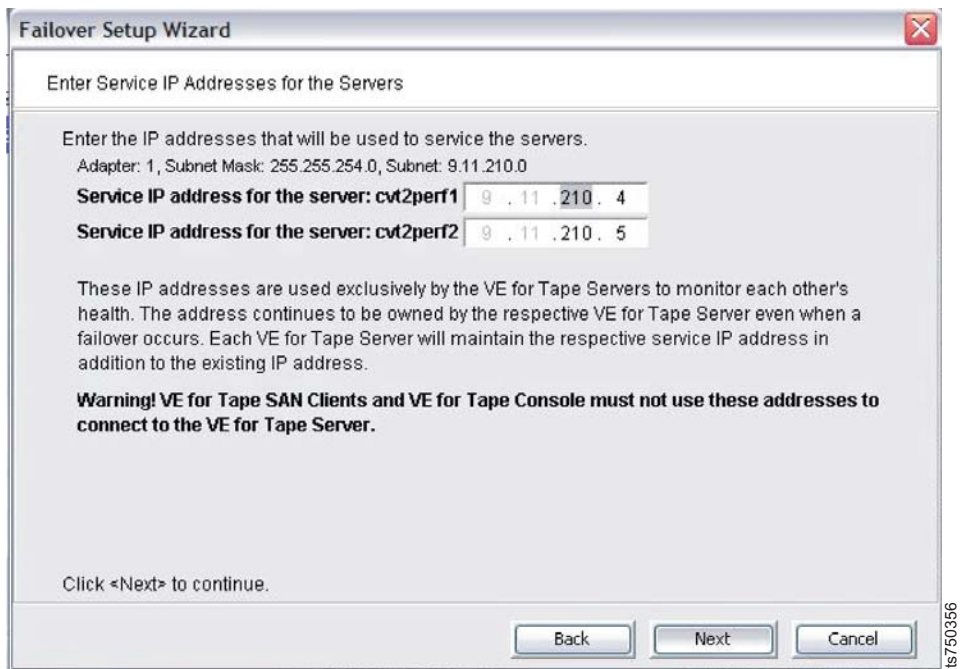

Figure 25. Entering or confirming service IP addresses for adapter 1
11. \_\_ In the Enter Service IP addresses for the Servers (Adapter 1) window (Figure 25):